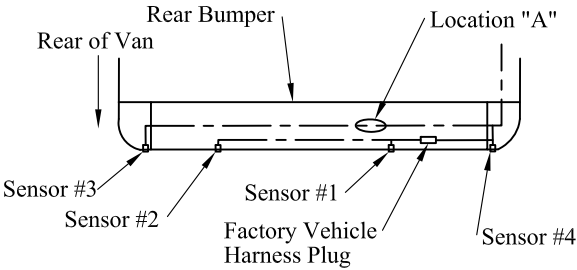

Figure 2: Factory Vehicle Wire Harness.
2. **Unplug** and **Remove** wire harness for sensors #1 and #2 from vehicle harness in bumper (Figure 2).
3. **Remove** and **Save** sensors #1, #2, and #3 from vehicle harness (Figure 2).
1. **Feed** the vehicle plug end of the new sensor harness through the secondary sensor bar mounting brackets. Start at the van center and stop at the factory vehicle harness plug (Figures 2 and 5).
6. **Follow** vehicle harness from sensor #3 until you reach location "A", near sensor #1 and **Cut** the harness. Leave enough length to complete the next step (Figure 2).